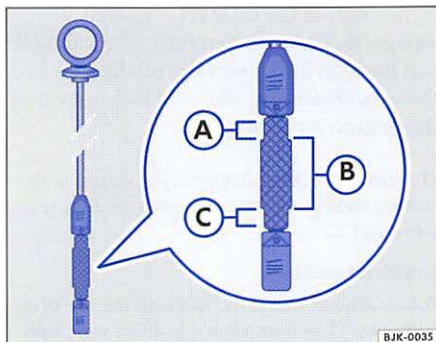

Fig. 5 Engine oil dipstick with engine oil level marks
If the engine oil level is above level ⇒fig. 5 Ⓐ, do not start the engine - this could damage the catalytic converter and the engine! Contact an authorized Volkswagen dealer or a qualified workshop. ◀
- As soon as the oil level is in area ⇒page 39, fig. 5 (B), carefully screw the oil cap back on and insert the oil dipstick all the way. Otherwise oil could leak out when the engine is running.
If the oil level is above level ⇒page 39, fig. 5 (A), do not start the engine - this could damage the catalytic converter and the engine! See an authorized Volkswagen dealer or a qualified workshop.